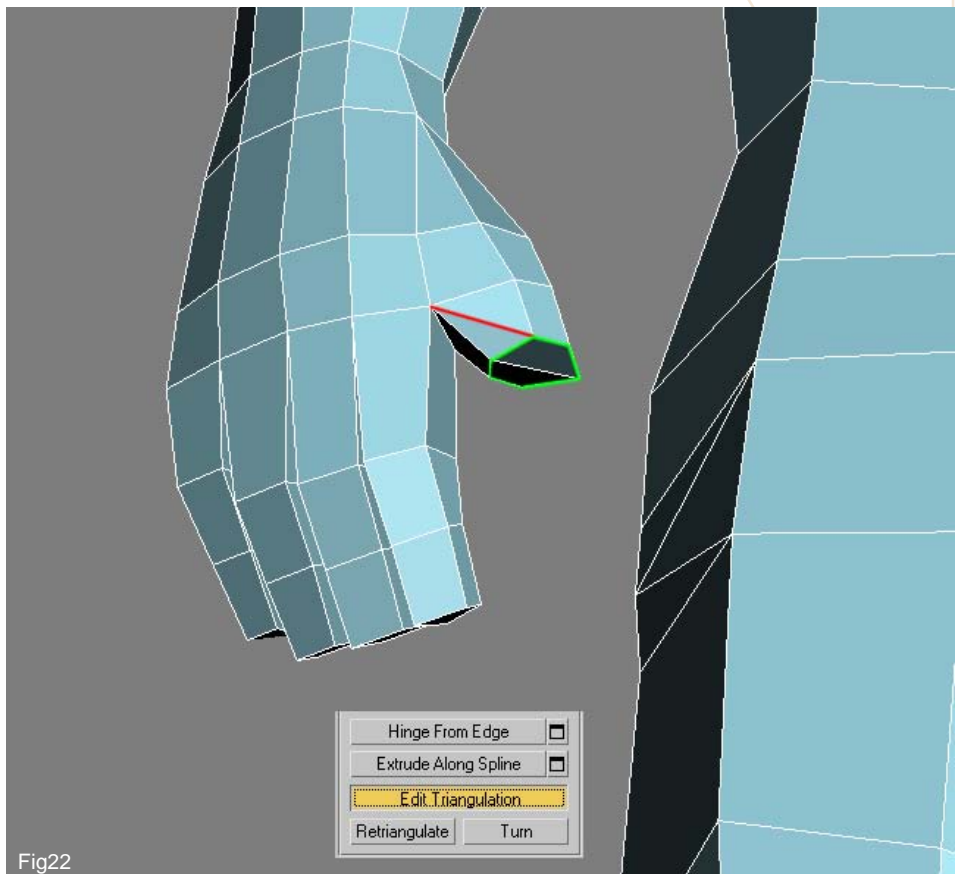

Fig22
22. The next step is to shape the thumb which will involve the same procedure and so select the lower poly's and extrude downward making sure to select "Group" this time. In order to create a better flow from the palm make sure you re-orientate the hidden edge to correspond with the red line in Fig22. You can do this by selecting the polygon in question and clicking on "Edit Triangulation" and then clicking on "Turn" and selecting the edge. This will cause the edge to flip in a different direction or alternatively you can make a cut as we have done in the past.